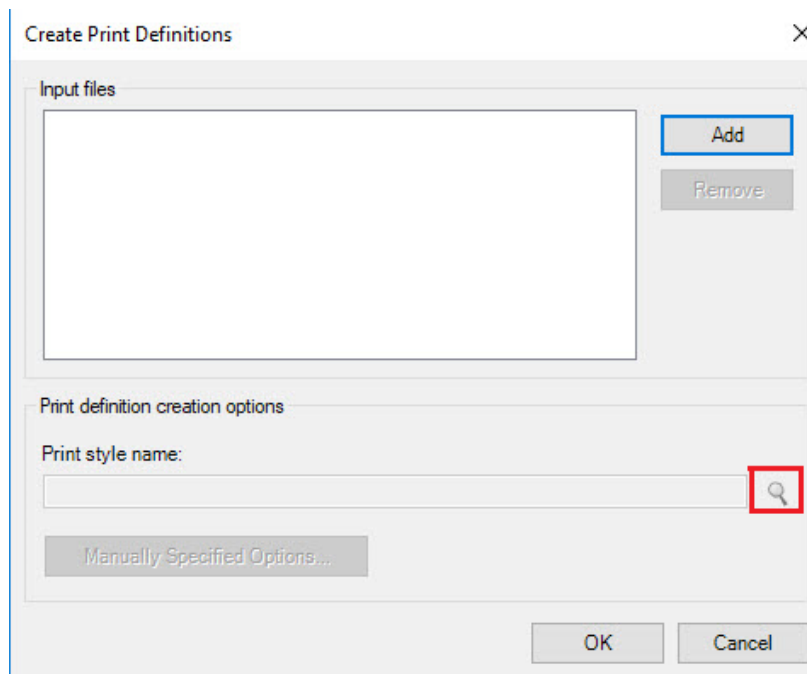

Figure 23 “Print Style Name”
Step 5. Next, select the magnifier to the right of Print Style Name (Figure 23 below)